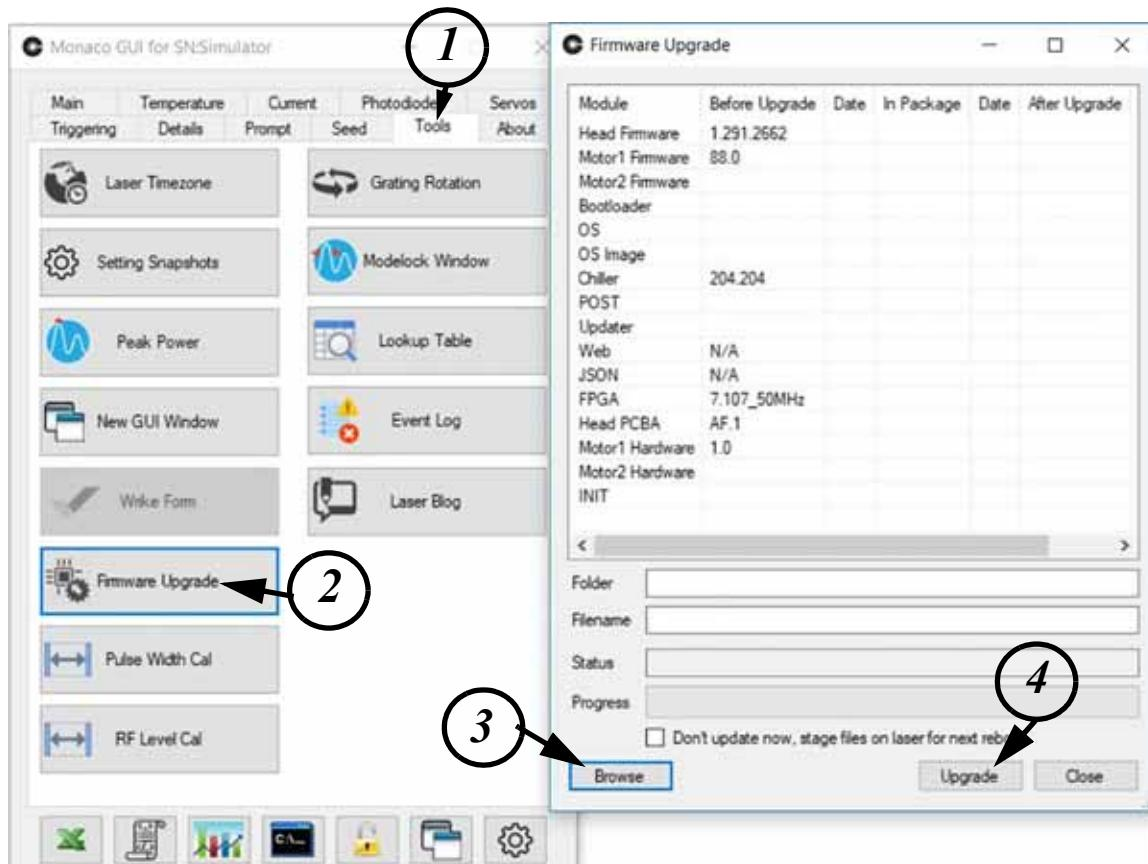

Figure 3.2-18. Firmware Update
8. Browse for the firmware update file on your PC, select it, click Open, and then click Upgrade (see Figure 3.2-18). Copies of the latest firmware (and GUI) files can be found and downloaded from the Service Sharepoint site: